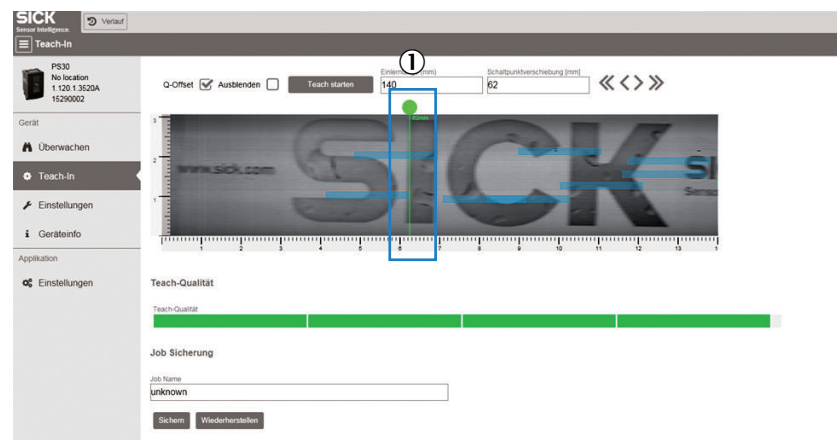

Figure 37: Appearance of the Teach-in menu with activated offset when using Endless material operating mode.
- ① Switching point offset marker
1. If a switching point offset is required, it can be enabled by selecting the checkbox. The marker displayed in green (see ① in the figure 37) can be moved by dragging the dot to the desired position using the cursor. After deselecting the checkbox, the marker is deleted and the switching point offset is deactivated.